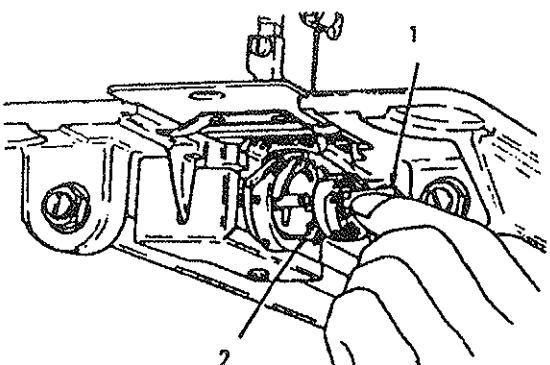

Fig.5.
2.Raise latch (1) (see Fig.5).
3.Lift out bobbin case (2) (see Fig.5).